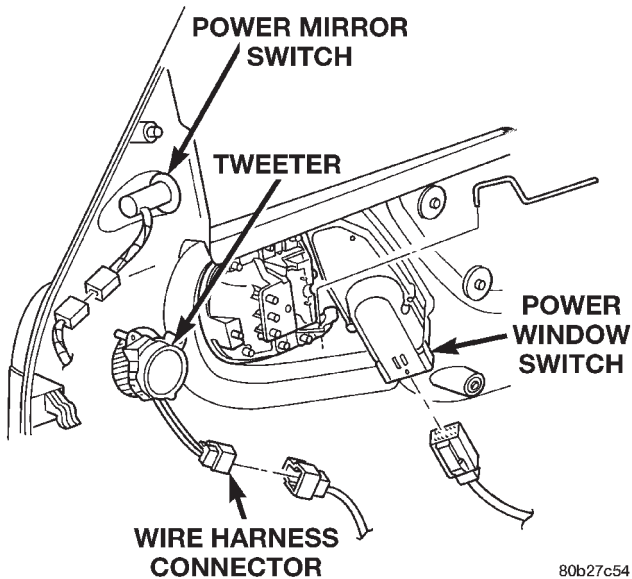

Fig. 25 Power Door Lock/Window Connector
- (9) Disengage clips attaching power window/lock switch panel to door trim panel. Disengage wire connector from switch panel, if equipped (Fig. 25).
- (10) Separate door trim panel from vehicle.